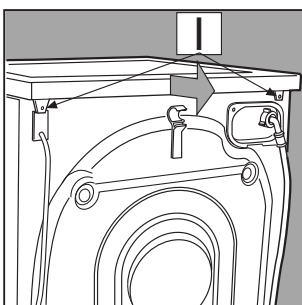

Fig. 3
- Remove the covering lid by unscrewing the two screws I, and then pull it towards you [fig. 3].